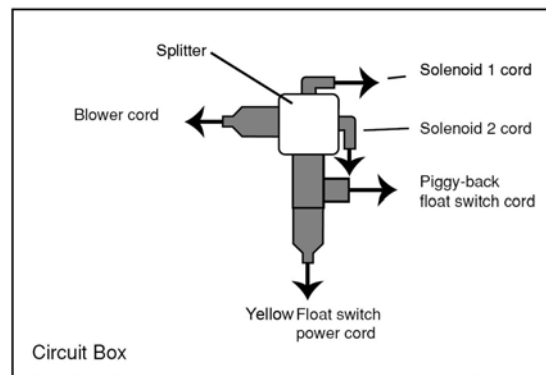
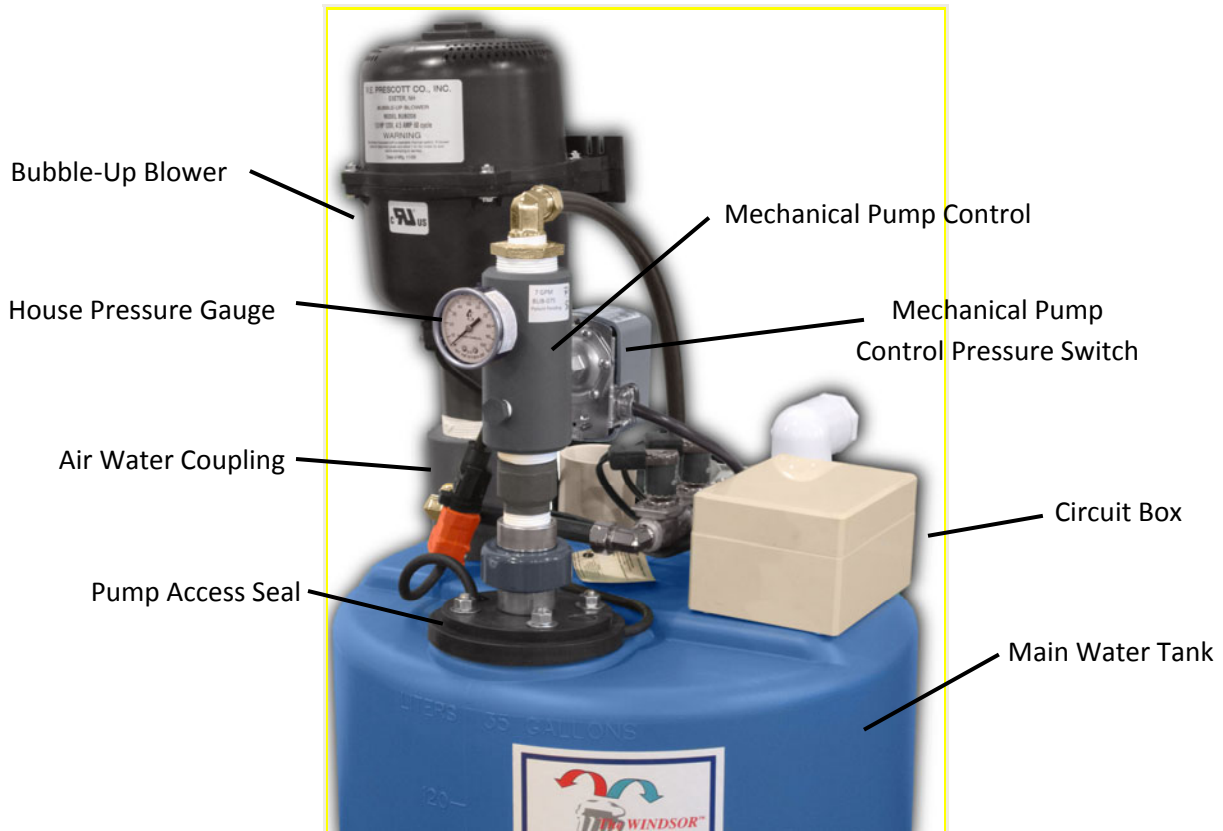

Figure 2 – Circuit Box Wiring Connections
Figure 3 - Installation Points
10. Open the white circuit box on top of the unit. See Fig. 3 for location of circuit box. (To open the top of the box, unscrew each of 4 screws and lift cover off.) Plug in the following cords as shown in Fig. 2.
5. Loosen the 4 nuts on the pump access seal. See Fig. 3. Do not remove the top nuts so that the bolts do not fall into the Windsor main water tank. Note that the direction of the float switch cord is towards the air-water coupling so that it can be re-installed in the same position.
Figures 3 through 9 list some of the replacement parts on the Windsor. There is a parts list on pages 11 and 12. Here are some points to keep in mind when replacing parts: